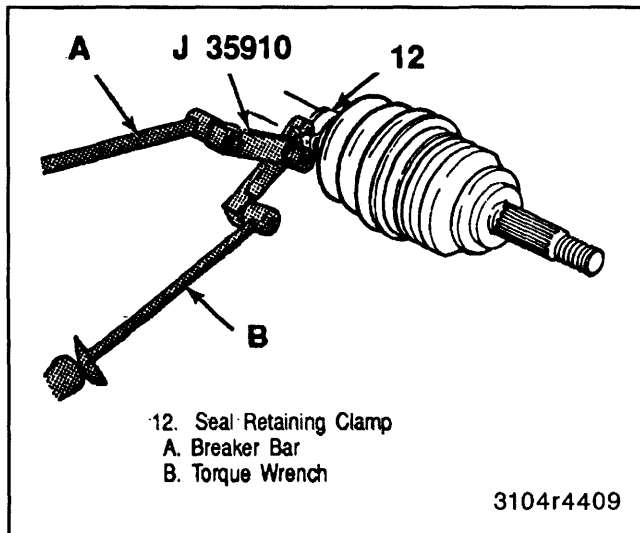
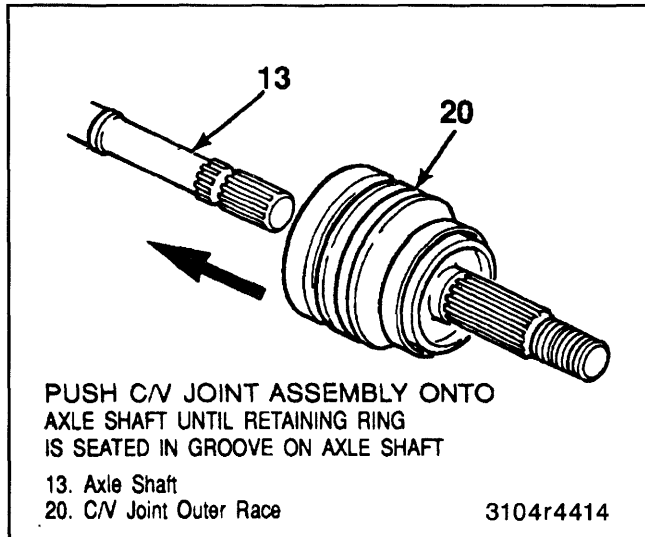

Figure 14—Installing Seal Retaining Clamp
Figure 19—Installing C/V Joint to Axle
- Retaining clamp (12) to 136 N.m (100 lbs. ft.) (figure 14).
- Place approximately half of the grease provided inside the seal (12) and repack the C/V with the remaining grease.
- Swage ring (9).
- Pinch by hand slightly to distort into an oval shape and slide onto large diameter of the seal (12).
- Push C/V joint onto axle shaft (13) until retaining ring (14) is seated in groove on axle shaft (figure 19).
- A. Slide the seal (12) onto the axle shaft (13) and position the neck of the seal in the seal groove on the axle shaft.
- B. Crimp the self-retaining clamp (11) with J 35910 to 136 N.m (100 lbs. ft.) (figure 19).
- C. Place approximately half of the grease provided inside the seal (12) and repack the C/V with the remaining grease.
2. Swage ring (9).
- A. Pinch by hand slightly to distort into an oval shape and slide onto large diameter of the seal (12).
- B. Push C/V joint onto axle shaft (13) until retaining ring (14) is seated in groove on axle shaft.
- C. Slide large diameter of the seal (12) with the large swage ring (9) in place over the outside of the C/V joint race (18) and locate the seal lip in the housing groove.
- Crimp seal retaining clamp (12) with J 35910 to 136 N.m (100 lbs. ft.) (figure 14).